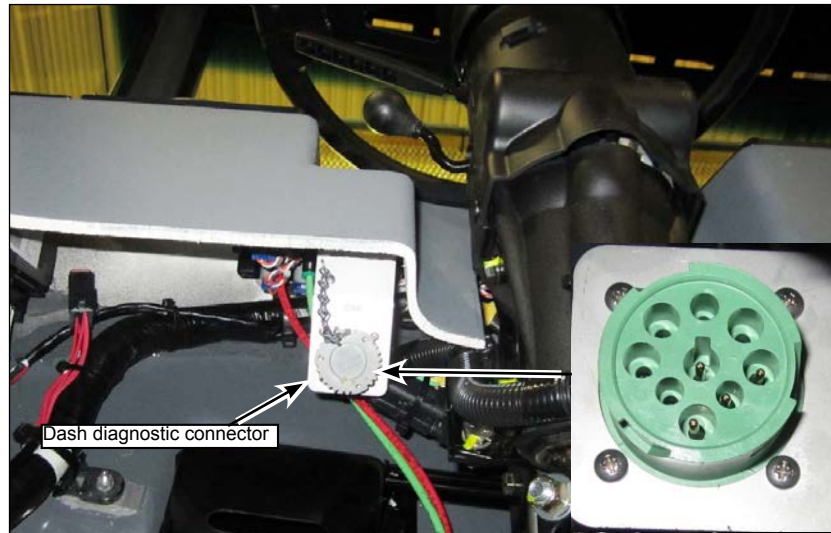

Figure 21 - Remove Dash Diagnostic Connector
- 1.21. Remove the dash diagnostic connector by removing the four nuts and screws that secure it to the bracket. Retain all hardware for reinstallation. The dash halves may now be removed, starting with the curb side (see Figure 21).